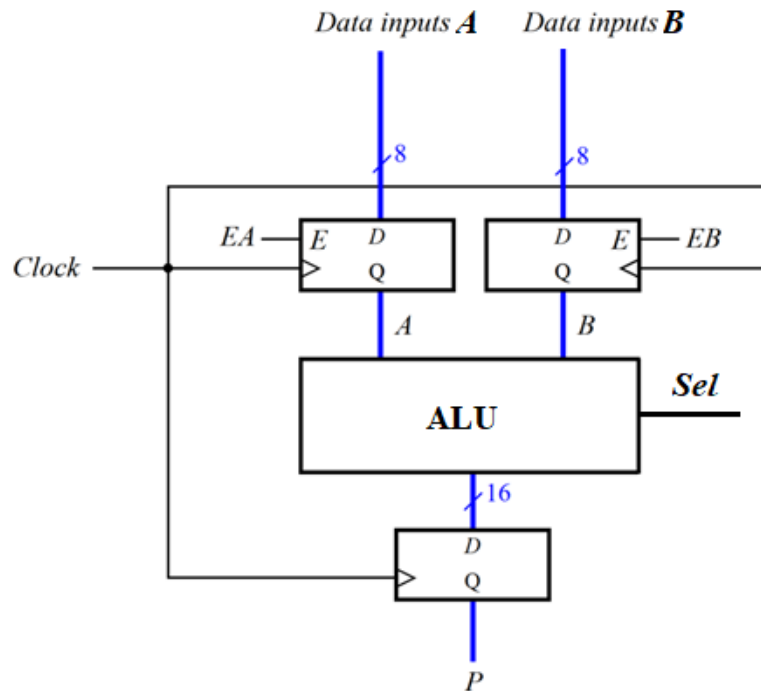

Figure 3: A registered ALU circuit.
**Requirement:** The circuit in Figure 3 shows an ALU circuit with registered inputs and outputs. The ALU can implement add, subtract and multiply depending on *Sel* input which is shown in Table 1. Write System Verilog code to implement this system.